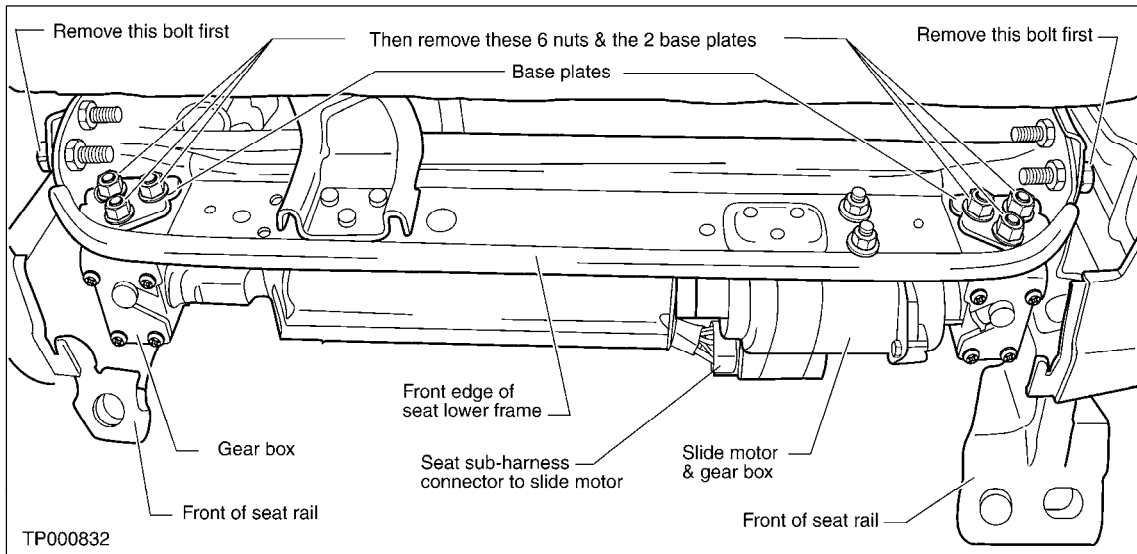

Figure 6
15. Disconnect the seat sub-harness connector to slide motor (see Figure 6).
- Remove the bolts shown below, one from each side of the seat frame (M8, 12mm head). They're located at the sides of the front edge of the seat (see "Remove this bolt first" in Figure 6).
- Then, remove six nuts (3 on each side) and two base plates, located at the top of the frame, to release the gear boxes (see Figure 6).
**NOTE:** For steps 20 through 23 (below), refer to Figures 6 and 7 on page 5, if needed.
22. Tighten the six nuts (three on each side) with the base plates, located at the top of the frame, to secure the gear boxes (refer to Figure 6 if needed). Nut torque: 64-85 in-lb (7.17-9.69 Nm).
23. Re-install and tighten two bolts (M8, 12mm head) located to the sides of the front edge of the seat frame (see "Remove this bolt first" in Figure 6). Bolt torque: 13-17 ft-lb (17.5-23.7 Nm).